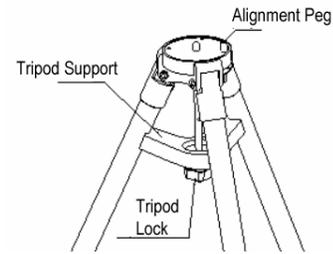

Figure 1
1. **Setup tripod:** Expand the tripod legs and lock the Tripod Support so that the tripod legs stay open (Figure 1). Adjust the tripod height by unlocking and re-locking the tripod legs to desired height. Position the tripod so that the Alignment Peg faces south. **(The Alignment Peg may be moved to the opposite position if used at latitude lower than  $20^{\circ}$  to avoid counterweights hit the tripod leg )**